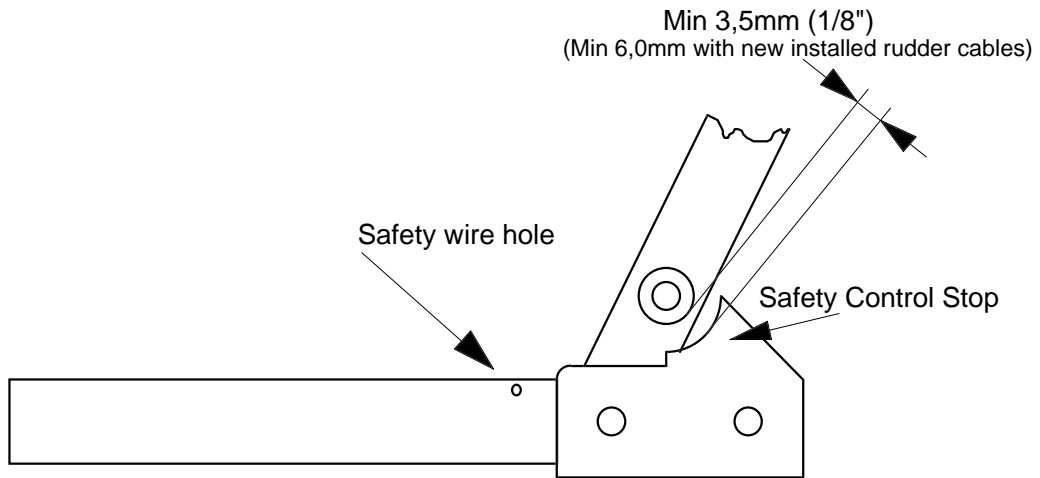

Fig. 3 Safety stop minimum clearance
- II.2 Check for minimum 3.5 mm (1/8") clearance (rudder cables having 50h flight time minimum) of the safety stop versus the rudder pedal when fully deflected, refer to figure 3; On newly installed rudder cables the minimum spacing is 6mm. This check to be performed with zero loading on the rudder pedals.